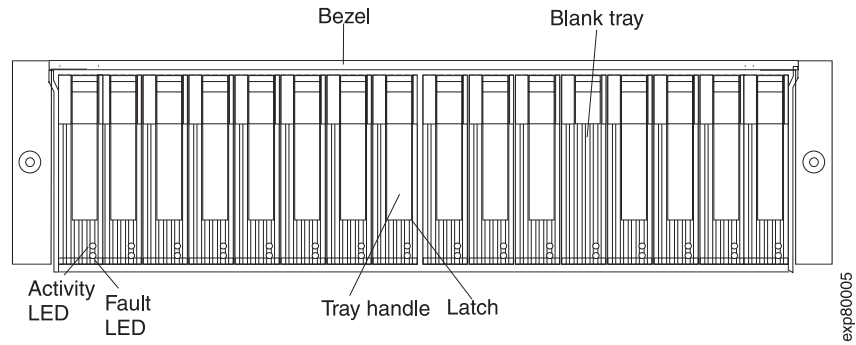

Figure 40. Hot-swap hard disk drive LEDs
2. Check for Fault LEDs shown in Figure 40 on page 75. If any amber LEDs are lit, see “Solving problems” on page 95.